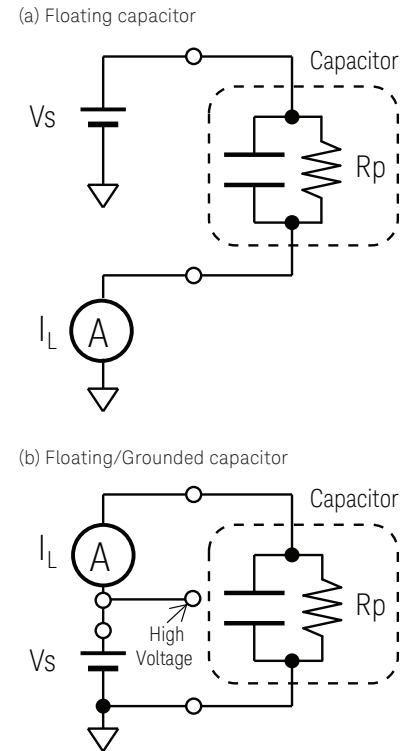

Figure 3. Leakage current test setup examples.
There are two ways to configure test equipment to measure capacitor leakage. Figure 3 shows typical test setup examples for capacitor leakage current measurement. The difference between the two test setups is whether or not the capacitor is floating or grounded (which is explained below).
The measurement scheme shown in Figure 3(a) is applicable when the capacitor is floating (i.e. both capacitor terminals are not connected to anything). In this case, one end of the capacitor is connected to the voltage source and the other terminal is connected to the ammeter (which is connected to ground).
The measurement scheme shown in Figure 3(b) is applicable when one end of the capacitor is connected to ground. In this case, one end of the ammeter is connected in series with the output of the voltage source, and the other end of the ammeter is connected to non-grounded terminal of the capacitor. To implement this configuration, the ammeter must be able to support floating mode operation.
The ability to float the measurement common adds flexibility to the instrument and allows it to cover a wider range of applications. For example, you can implement both configurations shown in Figures 3(a) and 3(b) (floating capacitor and grounded capacitor), which provides greater flexibility when making capacitance leakage tests.
1. You can switch easily between the floating and the grounded DUT connections shown in Figure 3 with the push of a button, thereby avoiding the need to manually change cable connections. While this adapter simplifies connectivity when making both types of measurements, the maximum test voltage for a grounded DUT connection is limited to 500 V. Note that a safe operating environment is insured by the triaxial connection scheme, which prevents contact with hazardous high voltages that appear on the ammeter common in the grounded capacitor measurement configuration.